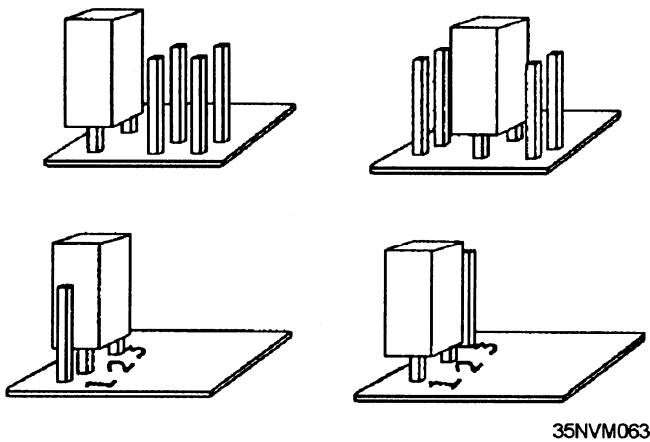

Figure 8-19.—Jumper connections.
**Jumpers.** —In some units, jumpers are used to make additional configuration changes. Jumpers (fig. 8-19) can be likened to dual-inline package (DIP)